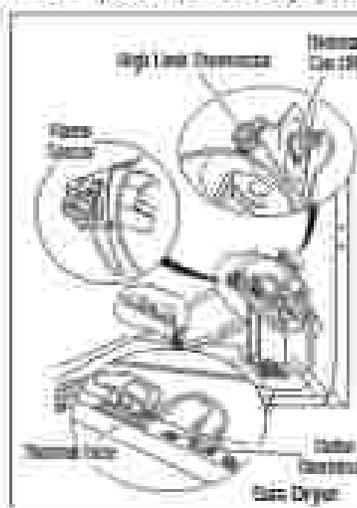

Figure 2 - Thermal components, gas dryer, viewed from front.
5. Locate the high limit thermostat (see figure 2, page 3-34). Measure the continuity through it by connecting the meter probes to the red and black wire terminals.